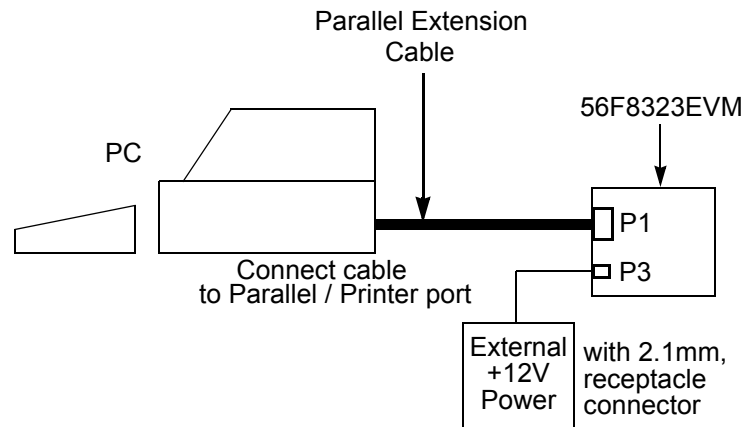

Figure 1-3. Connecting the 56F8323EVM Cables
An interconnection diagram is shown in Figure 1-3 for connecting the PC and the external +12.0V DC/AC power supply to the 56F8323EVM board.
2. Connect the other end of the parallel extension cable to P1, shown in Figure 1-3, on the 56F8323EVM board. This connection allows the host computer to control the board.
4. Connect the 2.1mm output power plug from the external power supply into P3, shown in Figure 1-3, on the 56F8323EVM board.